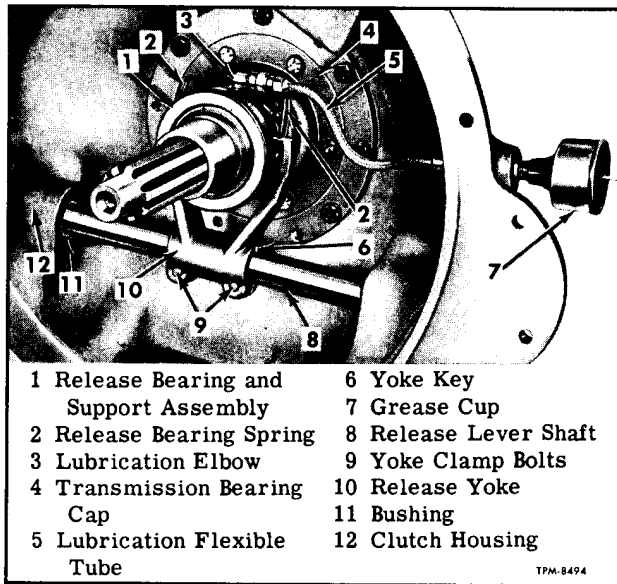

Figure 8—Release Mechanism In Clutch Housing
RELEASE MECHANISM REMOVAL (Fig. 8)
Key letters in text refer to figure 8.
3. Install shaft cover plate at outer side of housing (12). Rotate shaft (8) so yoke (10) is in position shown in figure 8, install release bearing and support assembly (1) on bearing cap (4), and clip support to yoke with two release bearing springs (2). Connect lubrication flexible tube (5) to release bearing support.
4. Check shaft (8) and yoke (10) to make sure they are properly centered, then tighten yoke clamp bolts (9).
5. Fill grease cup (7) with lubricant as specified in LUBRICATION (SEC. 13) and turn down cup to provide initial lubrication to bearing assembly. Apply a light coat of same lubricant on pilot surface on bearing cap (4). Also lubricate shaft bushings (11) through respective fittings.